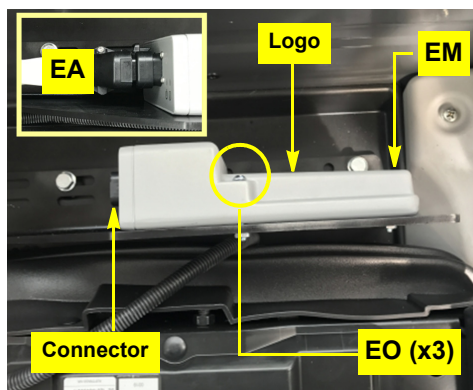

Figure 1b: ECU installed
*Figure 1b shows the ECU attached with temporary hardware; use **EO** supplied.*
- c. Connect main cable **EA** to **EM** (Figure 1b, inset).